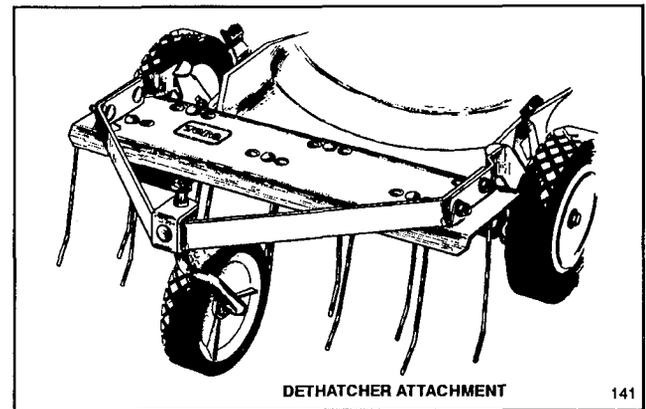

Figure 32
**3. Dethatcher Kit, Model 59131 (self-propelled model only)**—Installs in minutes. Front mounted for easy maneuverability. As spring tines scratch and vibrate through the grass, thatch is loosened and cut and recut by the mower (Fig. 32).